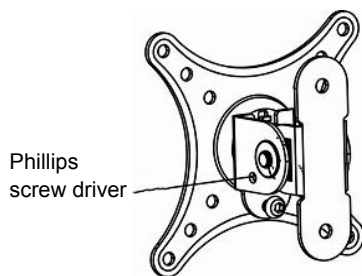
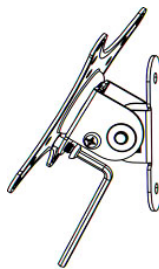

Figure 5
Figure 6
- 2 Tighten the safety screw on the side and back using a Phillips head screw driver and the supplied 4mm Allen Key (Figure 5 & Figure 6 respectively).